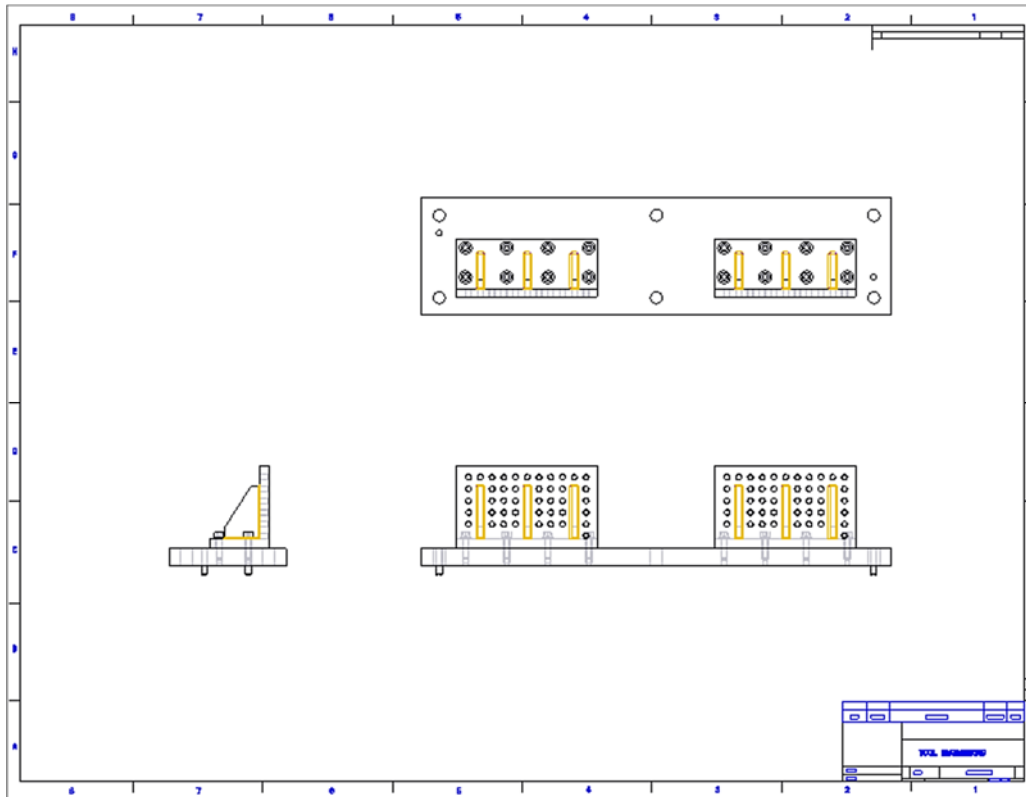

Figure 13.20(a) Sheet 1
**Ctrl+N > Drawing > mounting\_system > Template Browse > from Lesson 12 select ASM\_FORMAT\_E > OK > delete the top view > SCALE .5 > add a Projection View from the Front view > RMB > Sheet Setup > Browse > E Size > OK [Fig. 13.20(a)] > add a New Sheet and General View > SCALE .75 [Fig. 13.20(a)]**